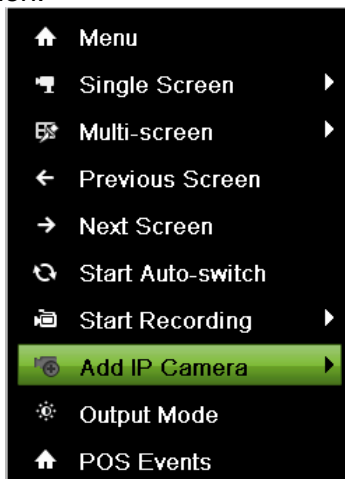

Figure 155 Right-Click Menu
1. Enter the live view menu and right click the mouse, as shown **Figure 155**, in then choose the Add IP camera option.